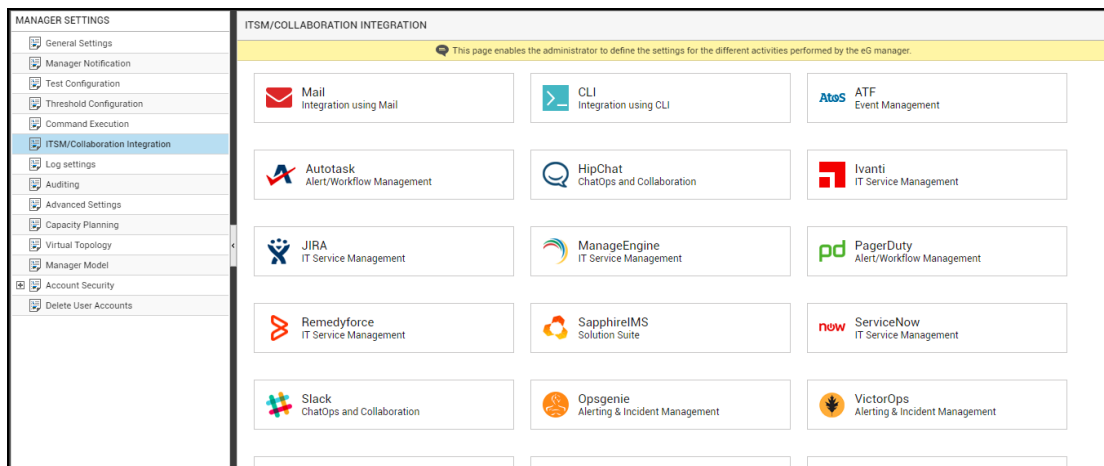

Figure 5.31: Viewing the ITSM/Collaboration tool options
3. Figure 5.31 will then appear. From the **MANAGER SETTINGS** tree in the left panel of Figure 5.31, select the **ITSM/Collaboration Integration** node. The third-party ITSM/Collaboration tools that eG Enterprise can integrate with will be listed in the right panel.
4. Now, click on the **SNOW ITOM** option in the right panel (see Figure 5.31). A **SNOW ITOM** section will now appear in the right panel (see Figure 5.32).